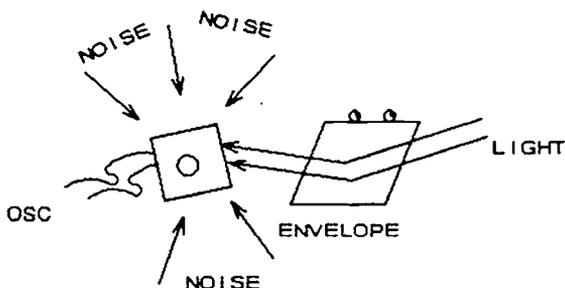

Figure C-2-6
4. To see how much noise is given off in the dark (must have lights off), hold the photo cell at an angle to the envelope (see Figure C-2-6, "Noise") and write down the voltage from the oscilloscope in the noise row of Table C-2-2, "Reflectivity." Now try to hold the photo cell at the same angle and have your partner shine the laser beam so that the reflection hits the photo cell (see Figure C-2-7, "Photo Cell Reflection"). Now put this oscilloscope reading into the "Reflection Off Card" row of Table C-2-2. Do this for all the different color cards, also in Table C-2-2.